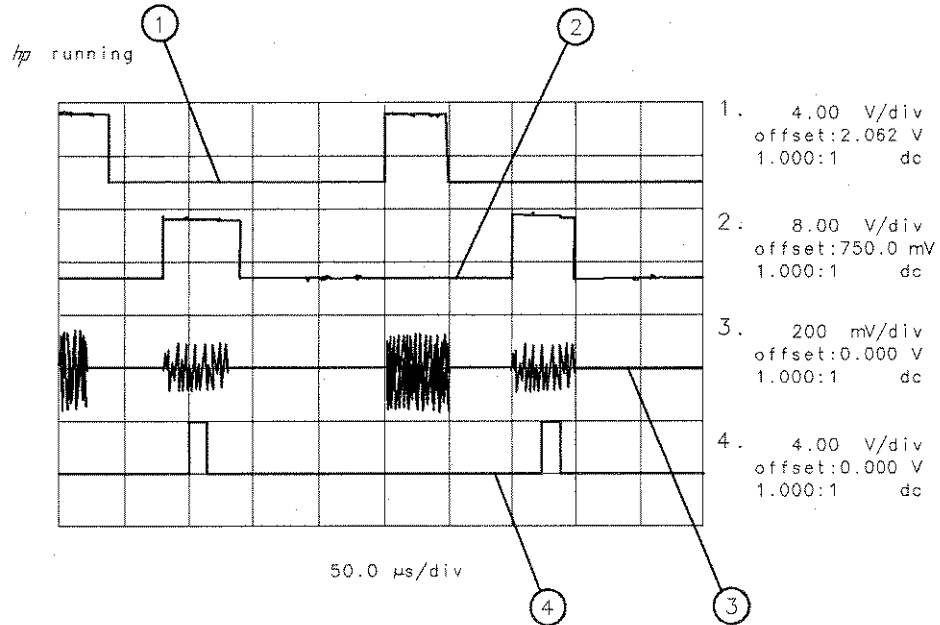

Figure 4-26. Placing the Gate Output During the Second Signal
- To view the second signal, change the gate delay so that the gate output is under the second signal. Since the second signal had a signal delay of approximately $85 \mu\text{s}$, we set the gate delay to $85 \mu\text{s}$ plus the pulse width/2, or $110 \mu\text{s}$. Press **[SWEEP]**, **Gate Control**, **GATE DELAY** 110 **[μs]** to set the gate delay to $110 \mu\text{s}$. Using an oscilloscope can be helpful in placing the gate output during the pulsed signal. See Figure 4-26.
Item	Description of Items in Figure 4-26